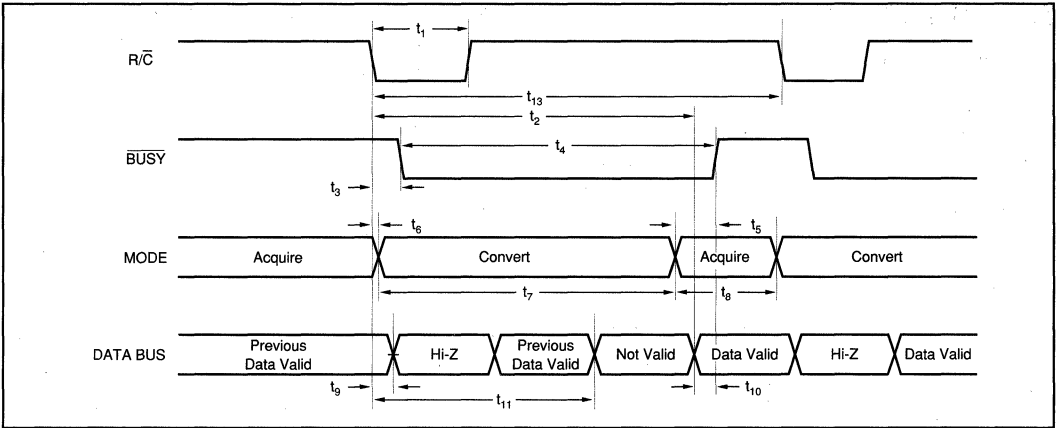

FIGURE 3. Conversion Timing with Outputs Enabled after Conversion (\overline{CS} Tied LOW.)
Table II for a summary of $\overline{\text{CS}}$, R/\bar{C} , and $\overline{\text{BUSY}}$ states and Figures 3 through 5 for timing diagrams.
NOTE: (1) See Figures 3 and 4 for constraints on data valid from conversion "n-1".
After conversion 'n' is completed and the output registers have been updated, \overline{BUSY} (pin 26) will go HIGH. Valid data from conversion 'n' will be available on D15-D0 (pin 6-13 and 15-22). \overline{BUSY} going HIGH can be used to latch the data. Refer to Table IV and Figures 3 and 5 for timing specifications.
After conversion 'n' has been initiated, valid data from conversion 'n-1' can be read and will be valid up to $7\mu s$ after the start of conversion 'n'. Do not attempt to read data from $7\mu s$ after the start of conversion 'n' until \overline{BUSY} (pin 26) goes HIGH; this may result in reading invalid data. Refer to Table IV and Figures 3 and 5 for timing specifications.
The number of control lines can be reduced by tying \bar{CS} LOW while using R/\bar{C} to initiate conversions and activate the output mode of the converter. See Figure 3.